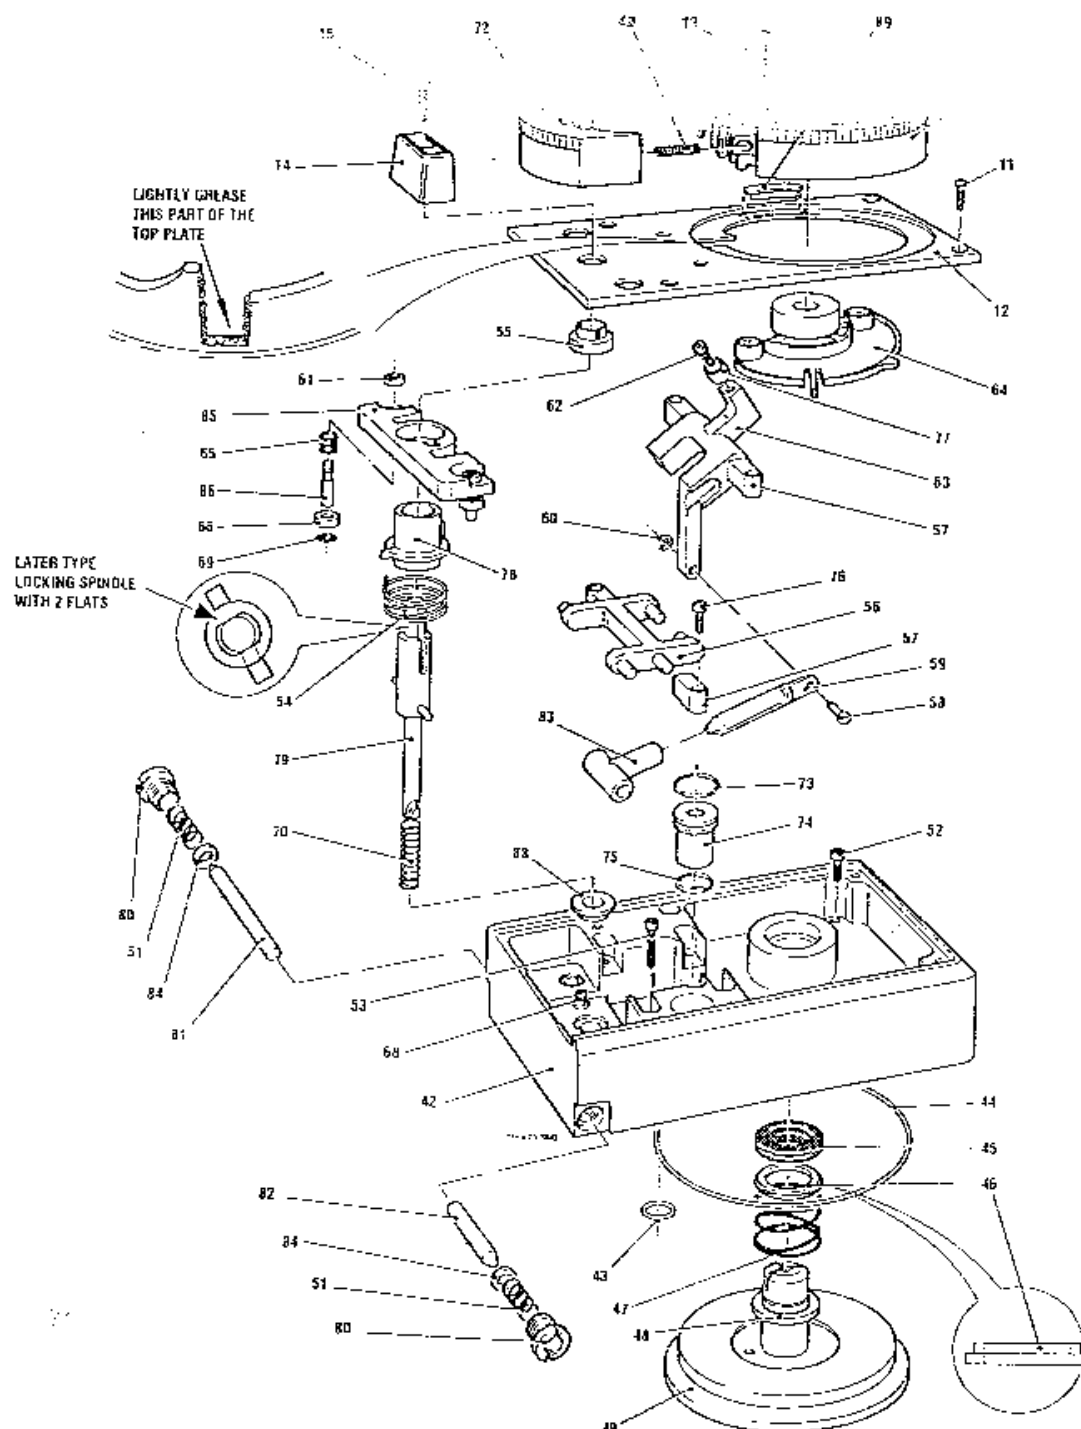

Fig. 3.14 Interlock Block Assembly
3.7.2 Interlock Block Assembly (Fig. 3.14 and 3.15)
21. Fit the stop moulding (89) to a new style top cover plate (12). Grease the stop face of the cover plate as illustrated in fig.3.14. Fit the cover plate to the interlock block, ensuring that the key in the cover plate fits into the slot in the locking lever spindle bush (55).
22. Secure the cover plate with the four screws (90) and ensure that the top cover plate is correctly fitted.
23. Lightly grease two new springs (40) and use blades on the dial release (12). Fit the springs into the dial (71) and then fit the dial release over the springs and into the dial. Remove any grease from the outer surface of the dial.